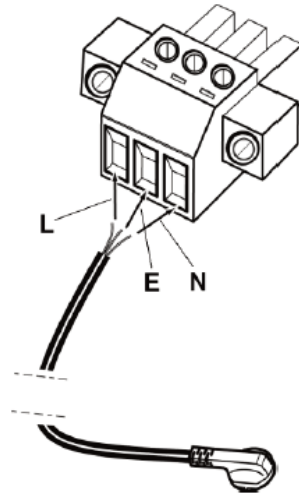

Figure 30 Schematic Diagram of the ZS-2000M or the ZS-4328IO Main Power Supply Cable Connection
1. Strip off the wire jacket of one end of the AC power supply cable by 20mm and connect the cable to the main power supply wiring terminal, as shown in Figure 30.